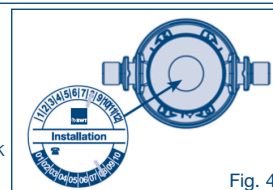

Fig. 4
7. Mark the included label with the installation date (month/year) and stick the label on top of the filter head (see Fig. 4)